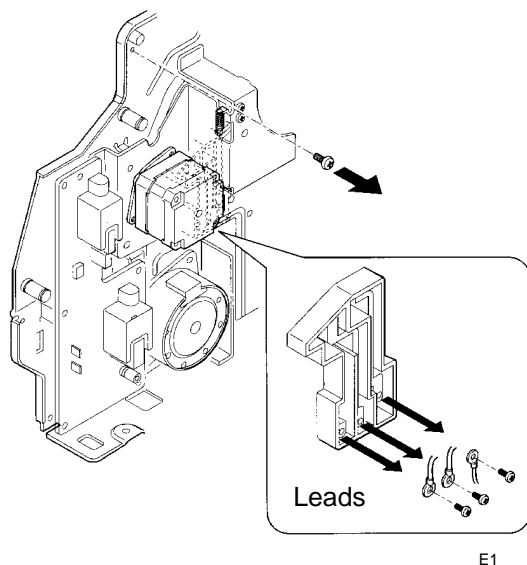

Figure 1. Removing the High Voltage Leads
- (Figure 1): Remove the screws and remove the Transfer, Charge, and Grid leads.